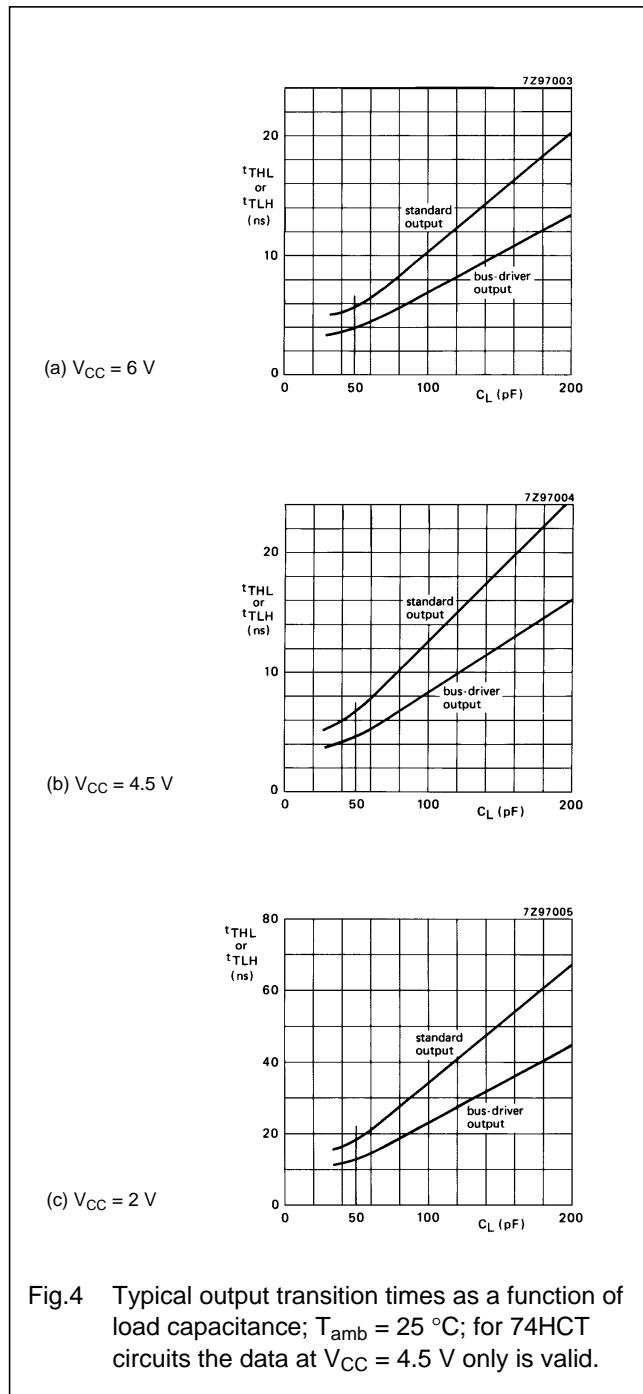

Fig.4 Typical output transition times as a function of load capacitance;  $T_{amb} = 25$  °C; for 74HCT circuits the data at  $V_{CC} = 4.5$  V only is valid.
The influence of capacitive loading on output transitions is shown in Fig.4; A good approximation of the output transition times can be calculated using the data of Table 4.
**Table 4** Typical output transition times for load capacitances greater than the standard 50 pF load, see Fig.4